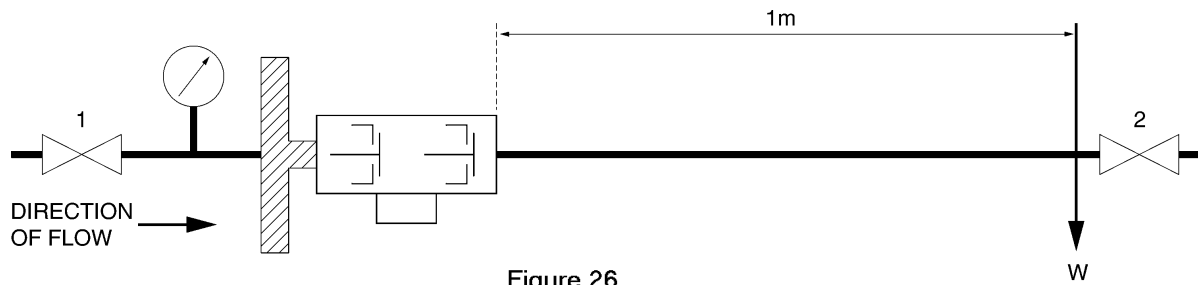

Figure 26
- (1) Mount the device on the test bench in its normal working position.
- (2) Apply a load 'W' as shown in Figure 26 to produce the bending moment given in Table 1.
- (3) Upstream of the device apply a pressure of $16 \text{ bar} \pm 0.5 \text{ bar}$. (Reference setting-up procedure 1-50-61).
- (4) Hold the bending moment and pressure for 10 min - 0 + 60 sec.